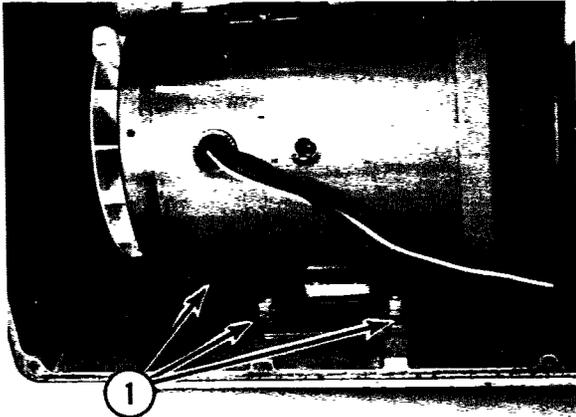

Fig. 2-9
- (7) Disconnect the motor leads from the terminals of the contactor.
- (8) Remove the nuts and lock-washers from the motor mounting studs (1, Fig. 2-9). Remove the Flexa-Gear belt from the motor drive pulley.